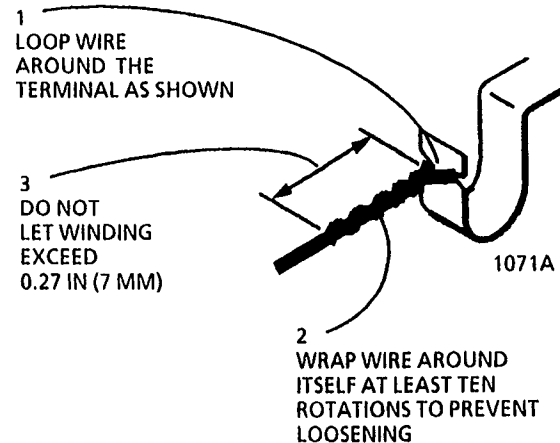

Figure 2. Installing the Transfer Corotron Wire onto the Terminal
1. (Figure 2): Install the transfer corotron wire onto the terminal.